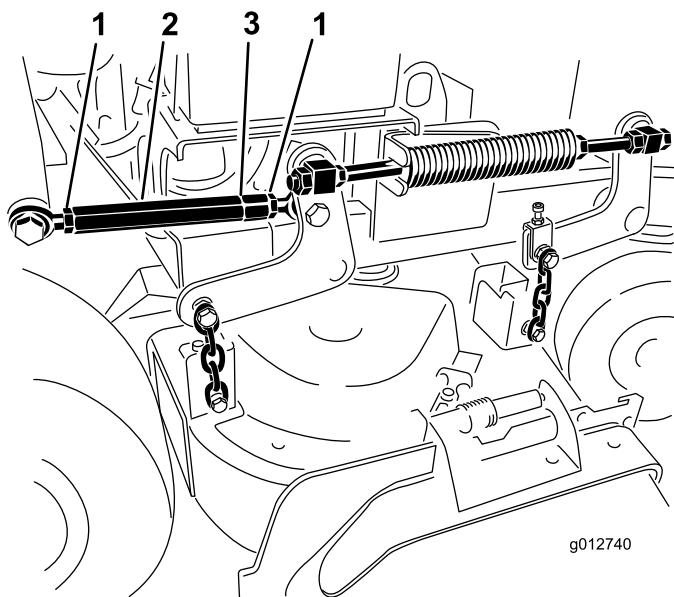

Figure 86
- Loosen the jam nuts at both ends of the turnbuckle (Figure 86).
Note: The end of the turnbuckle with the groove machined in it has left hand threads (Figure 86).